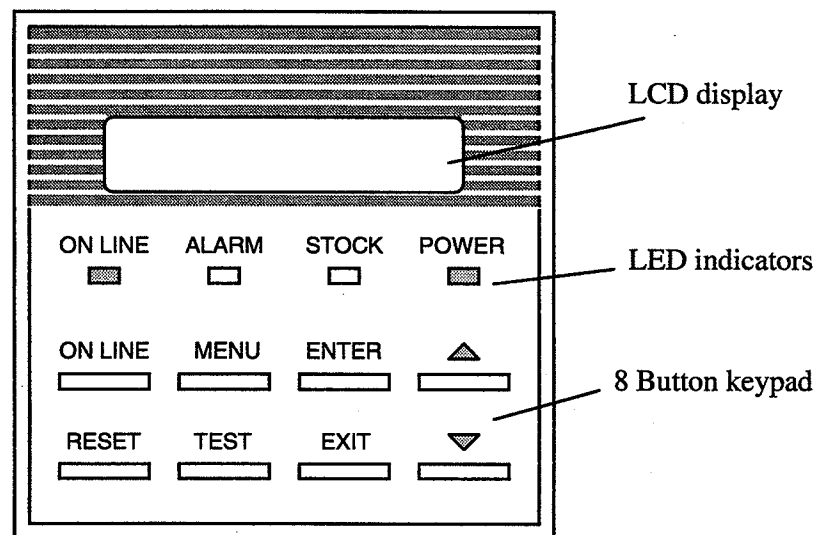

FIGURE 3-1. FRONT PANEL
The operator's front panel is the interface tool between the Printer and the operator. The panel is used to select the on line/off line operation of the Printer, print configuration coupons, select the Printer functions, and display messages/status. It is important that the operator understands the operation of the panel before attempting to operate the Printer. The front panel is divided into three (3) sections: *LCD display*, *indicator lights (LED)*, and *an eight button control keypad*. See figure 3-1.